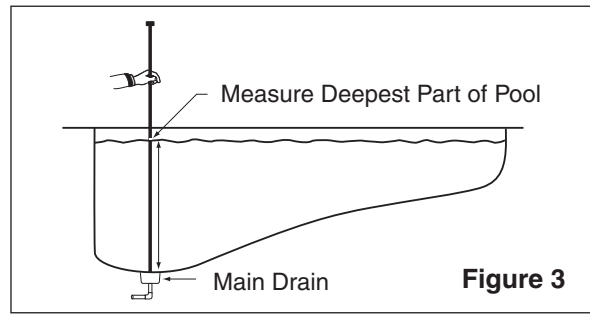

Figure 3
1. Measure the deepest part of the pool. See **Figure 3**.